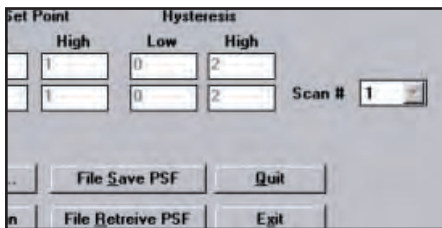

Figure 5-20. Scan # (PSF Configuration screen)
**Scan #** Provides a way to smooth output response and avoid unstable analog output conditions. The menu allows selection of from 1 to 9 scans (see Figure 5-20). For analog outputs, if scan # is set at more than 1, the scan analysis value is averaged for all of the selected number of consecutive scans, preventing dips and spikes in the outputs.